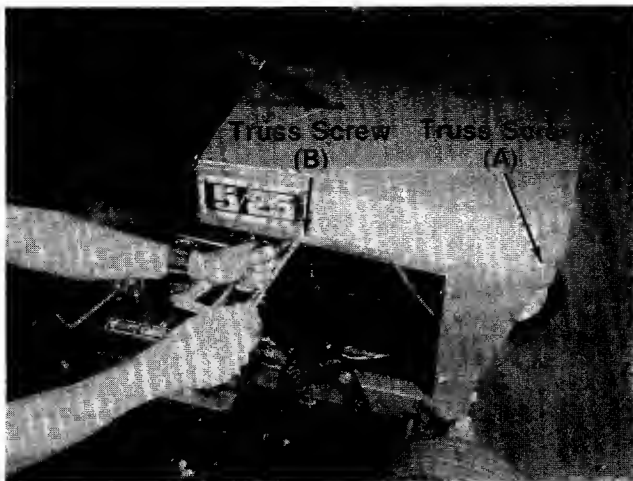

FIGURE 7.
4. Assemble the hood with 5/8" long truss screws (A) to the rear of hood, and the 1/2" long truss screws (B) to the front of hood. Fasten with lock washers (D) and hex nuts (C) to the inside. See figure 7.